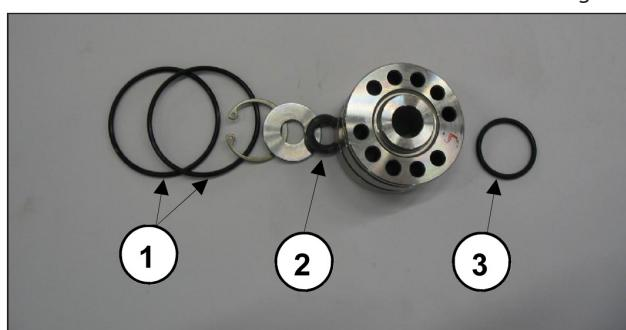

Fig. 47
- Reassemble the seals support unit as shown in Fig. 46 and Fig. 47 replacing components ①②③.